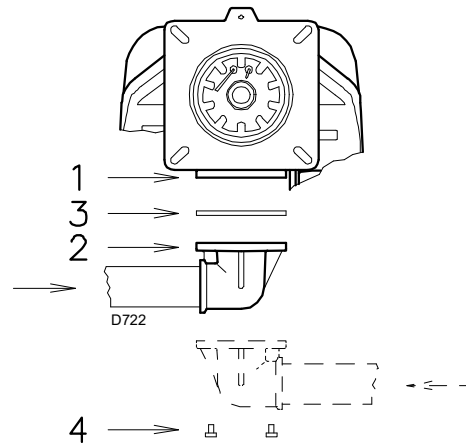

Fig. 22
- The gas train must be connected to the gas attachment 1)(Fig. 22) with the flange 2), the gasket 3) and the screws 4) supplied with the burner.